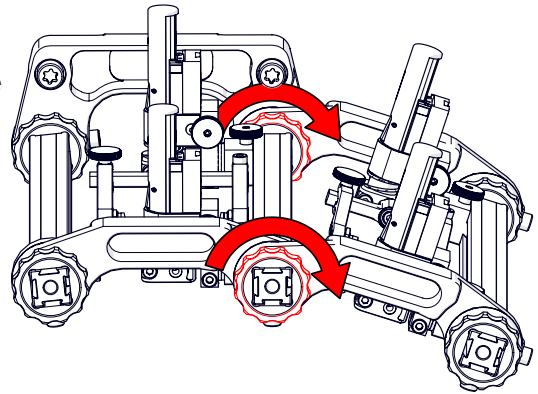

Fig. 138 - Tighten probe holder frame nuts
3. Tighten the probe holder frame nuts to lock the frame at the desired angle (Fig. 138).